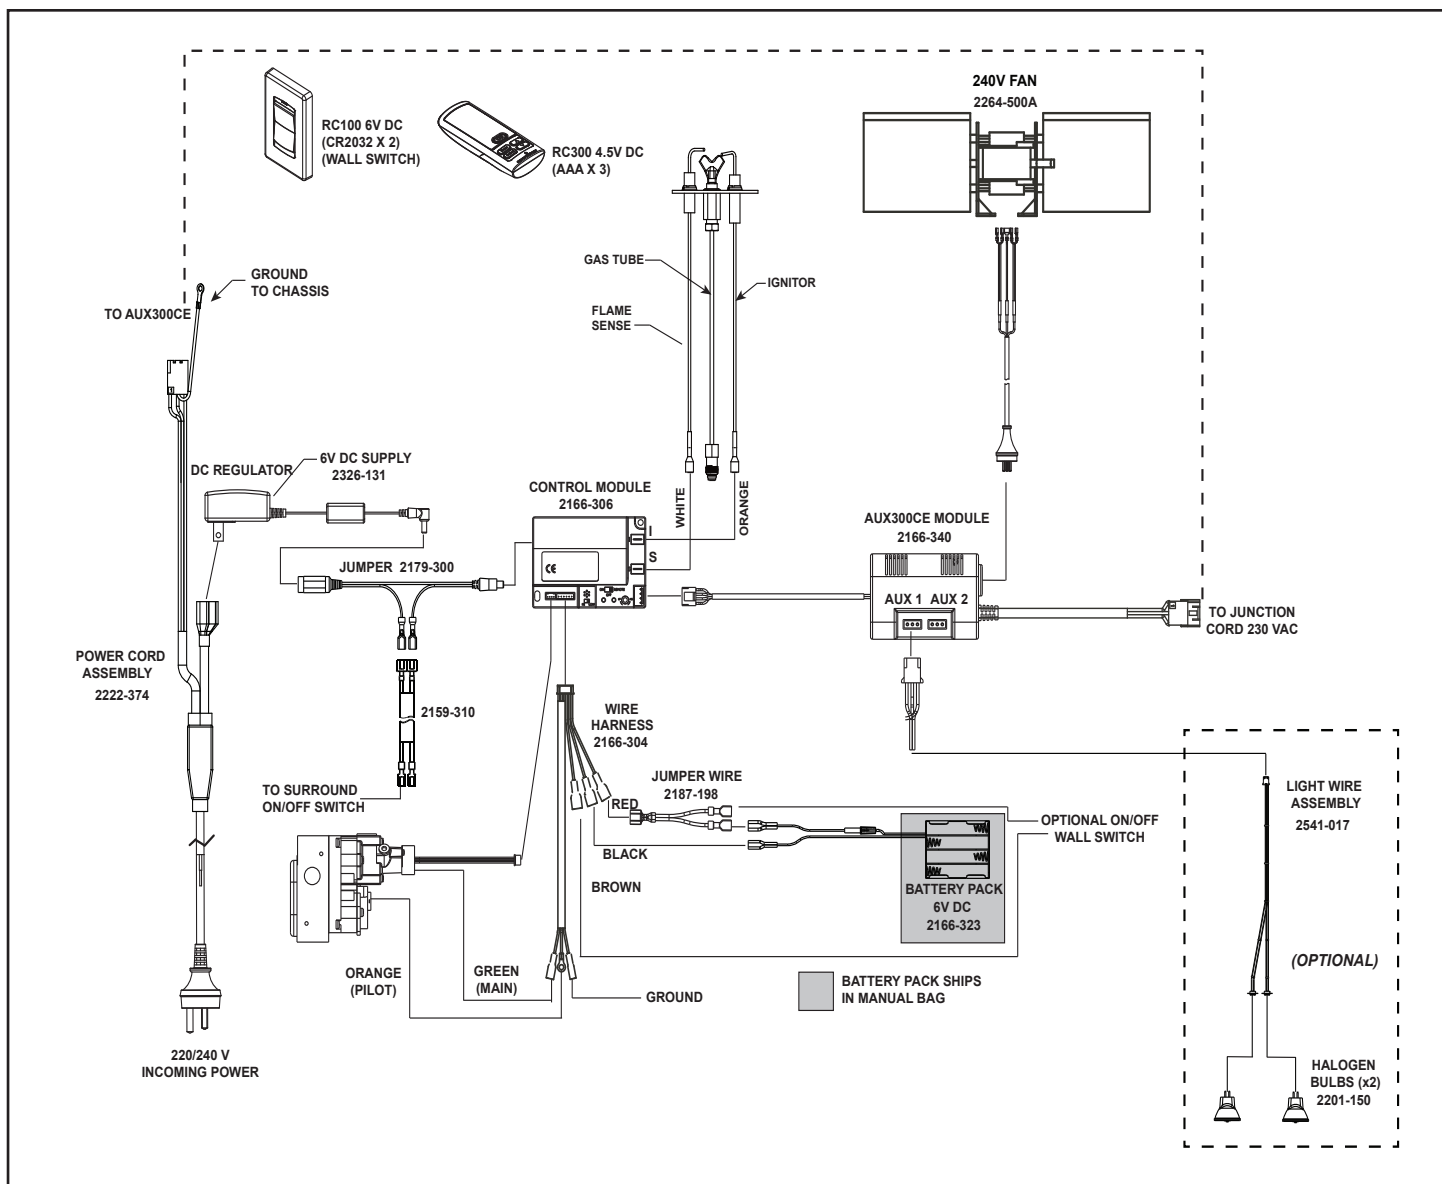

Figure 6.2 IntelliFire™ Plus Wiring Diagram with Remote
- Refer to Figure 6.2, IPI Wiring Diagram.
- Service / replace the fan. Figure 6.2 shows a wiring diagram.
- Install and wire the halogens per instruction shipped with the halogens kit. Figure 6.2 also shows a wiring diagram.